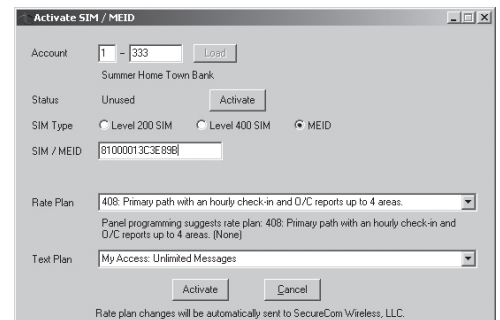

Figure 3: Remote Link Activation
3. Select the Rate Plan and Text Plan for the 265C. See Figure 3.